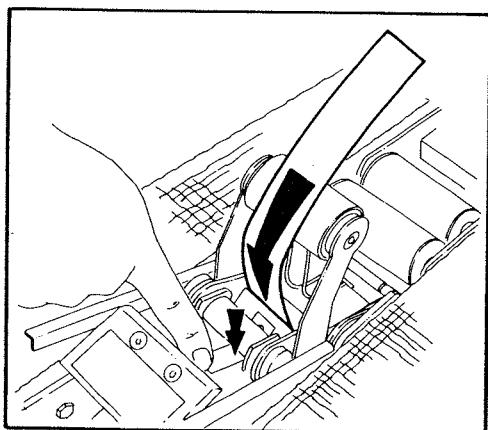

FIGURE 5A
- 2) For subsequent tape loading operations, use the red plastic threading needle and follow the loading procedures from figure 5A to complete the tape loading.
Figure 5A - Bottom taping head is threaded in same manner as top taping head, except, insert red plastic needle from top downward between one-way roller and anti-back-up spring. Pivot spring away from roller by lightly pushing on lever as designated by arrow.